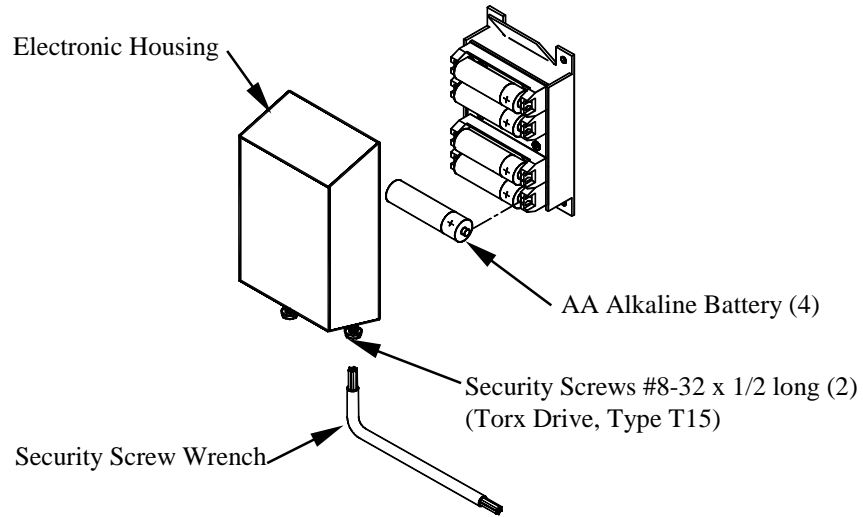

Figure 10 Weatherized Cylindrical and Mortise Models
Step 1 Unscrew the Security Screws approximately 1/4 inch and remove the Electronic Housing (Figure 10).